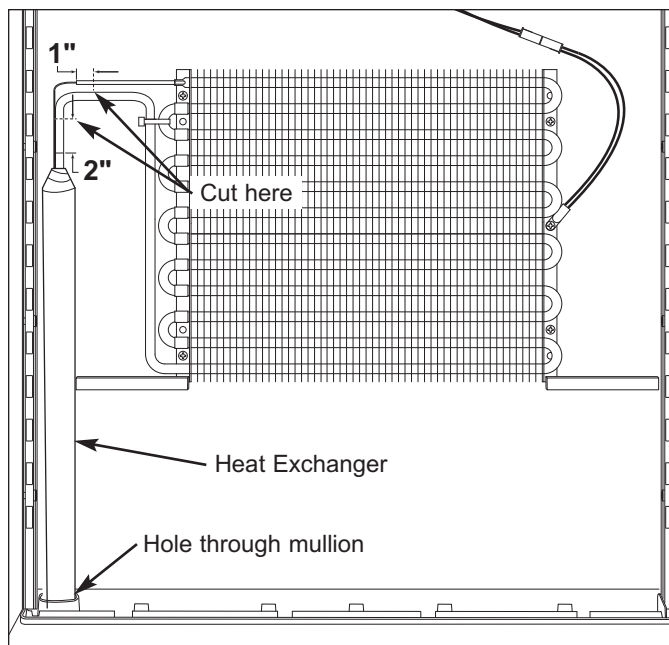

Figure 7-53. Cut Inlet and Outlet at Evaporator
1. Begin removing heat exchanger by cutting the inlet and outlet tubes at evaporator. (See Figure 7-53)
4. The heat exchanger will be scrapped, so use a tin snips or similar tool to cut heat exchanger near hole in mullion and hole in floor of the lower compartment. (See Figure 7-53)